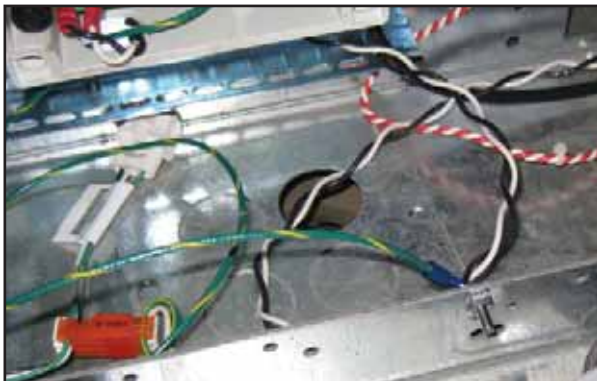

Figure 7: Attach Ground Wire
15. Find knockout panel on the bottom of the electrical enclosure closest to the DTU (See Figure 7).